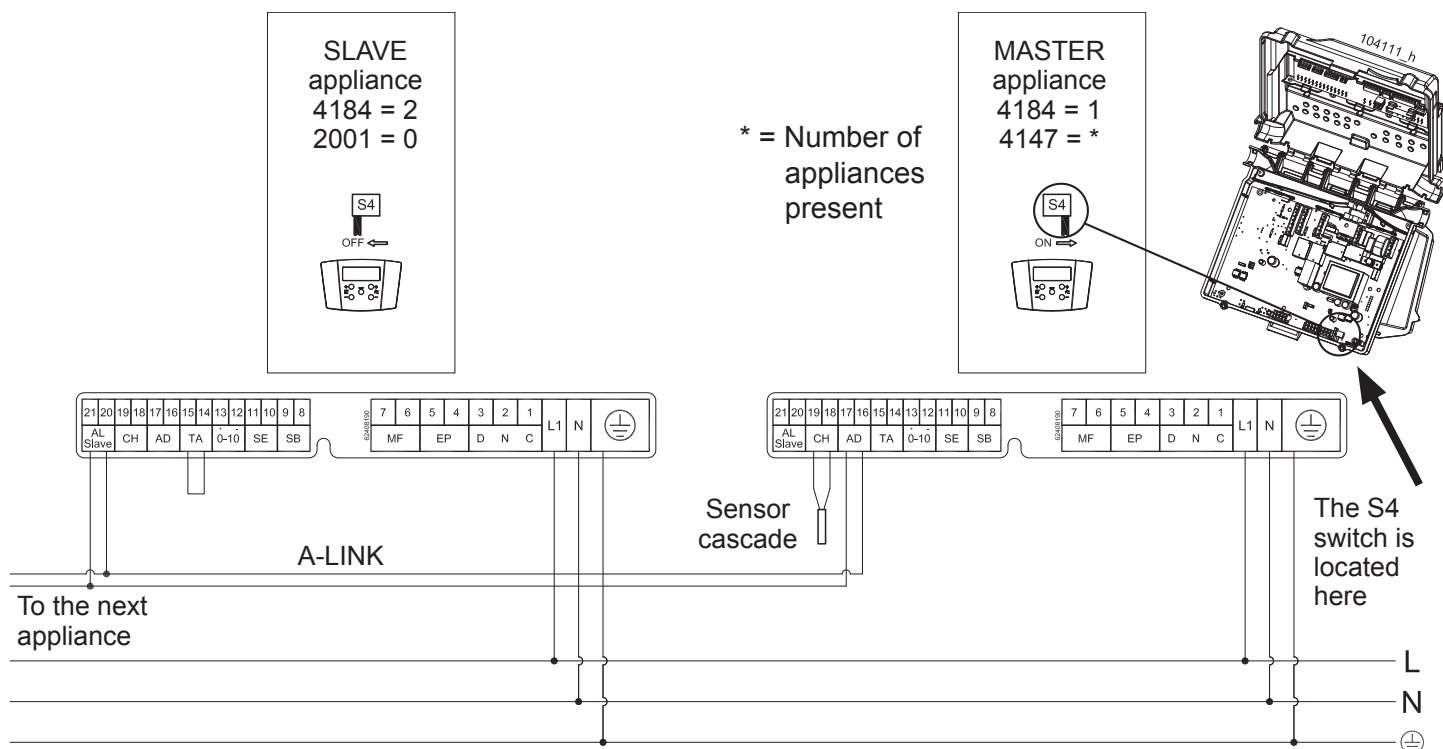

Figure 5-11 – Wiring diagram for appliances in a cascade
- 2 - Set up the electrical installation as shown in figure 5-11;
4 - On the "Master" unit, check that switch "S4" is in the ON position (see figure 5-11);
6 - On the "Slave" unit, move switch "S4" to the OFF position (see figure 5-11);